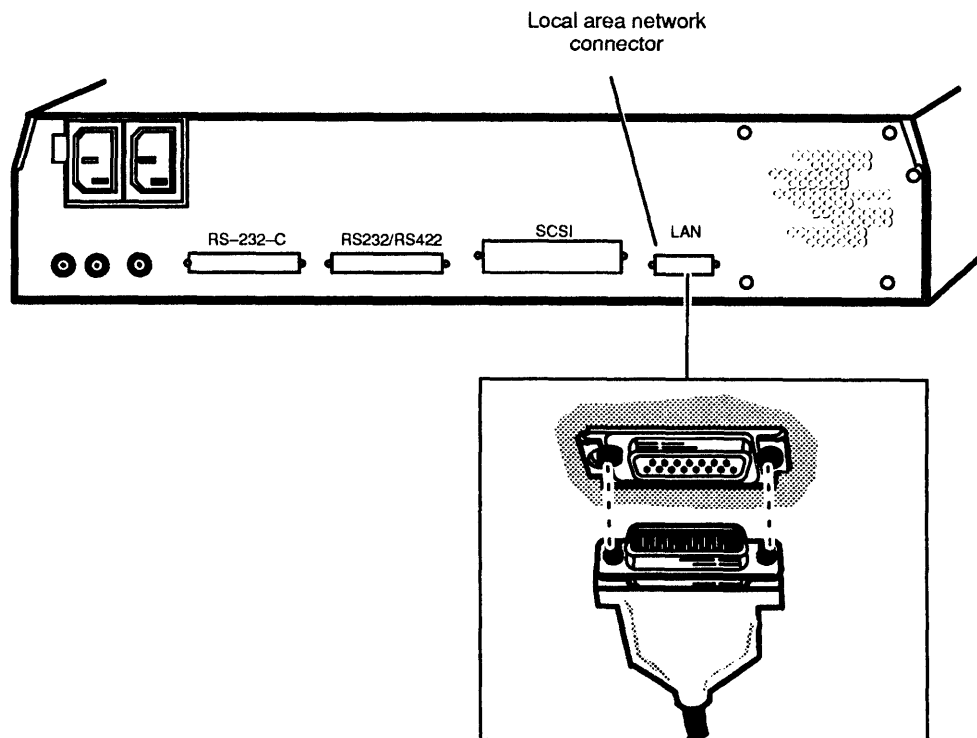

Figure 2-9 Local Area Network Connector Location
1. Align the holes in the transceiver cable with the pins in the computer unit LAN connector, shown in Figure 2-9.